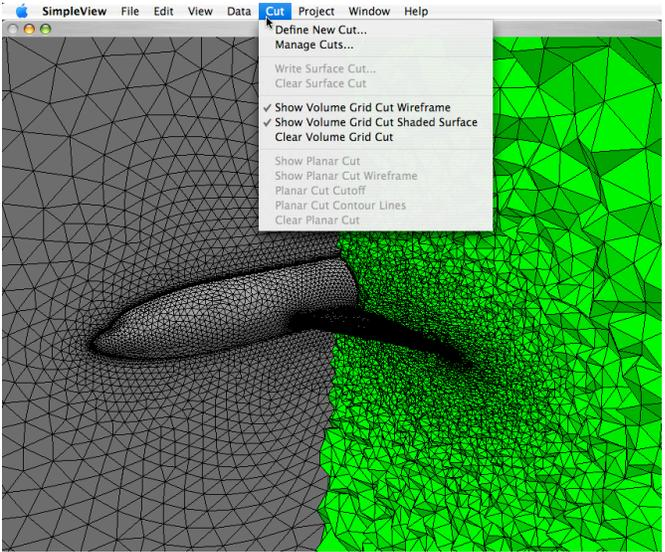

Figure 2.5.4 Displaying cuts through the volume :
5. Click on “OK.” You’ll notice that the transparent blue plane disappears, and in its place, a display of all the cells crossing that plane appears; by default, the cells are shown with both the wireframe and face-shading enabled, as illustrated in Figure 2.5.4.